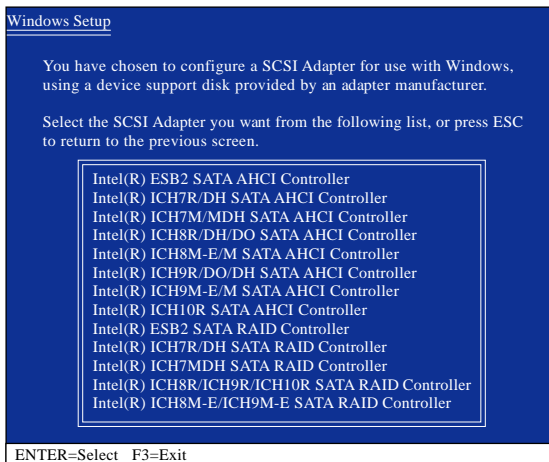

Figure 3
When Setup correctly recognizes the Intel ICH10R SATA RAID/AHCI driver in the floppy disk, a controller menu similar to Figure 3 below will appear. Use the up or down arrow key to select one of the items displayed and press <Enter>. If you set the **SATA RAID/AHCI Mode** item in BIOS Setup to RAID mode, select **Intel(R) ICH8R/ICH9R/ICH10R SATA RAID Controller**. (Select **Intel(R) ICH10R SATA AHCI Controller** for AHCI mode.)